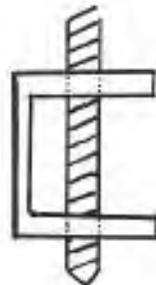

FIGURE 1
2. Straight and true holes can be made with a hand drill by using a jig made by drilling the desired size holes through channel iron on a drill press. The jig can be held or clamped to the work and then the hand drill used. (See figure 1)